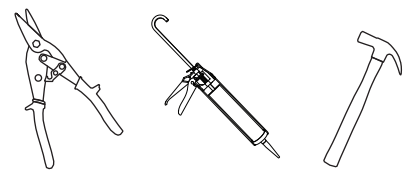

**Fig 10b**
**D.** Place Z-molding on the base and nail to the studs **Fig 10b**